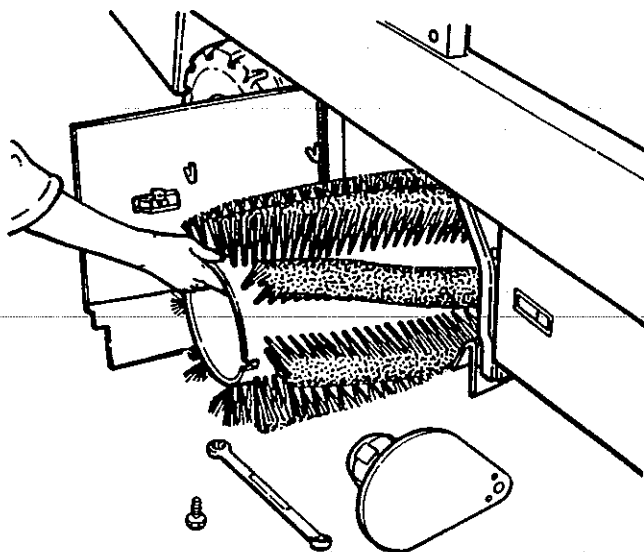

Figure 4-30. Main Broom Change
4. Using the wrench stored inside the broom chamber door, remove the hex bolt on the main broom idler mount, see figure 4-30.